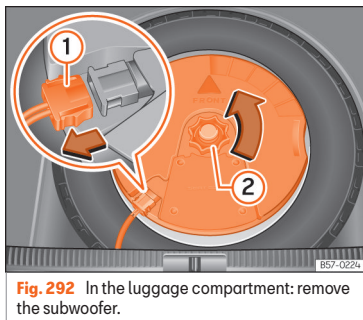

Fig. 292 In the luggage compartment: remove the subwoofer.
- Disconnect the *subwoofer* »» Fig. 292 ① speaker cable.
- Turn the securing wheel in an anti-clockwise direction »» Fig. 292 ②.